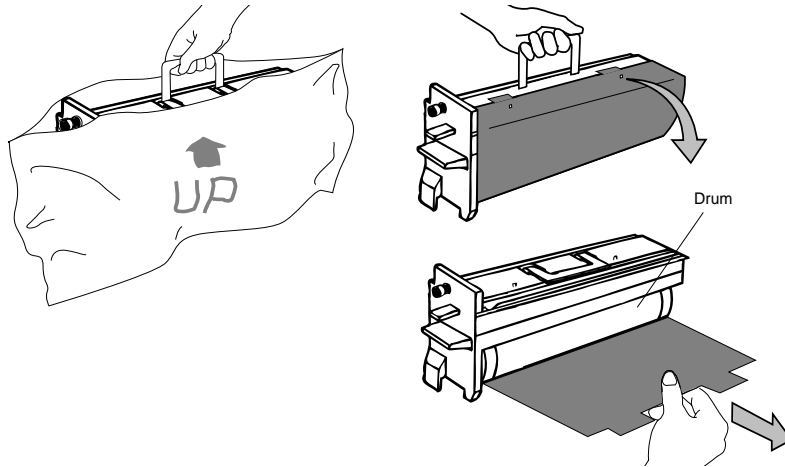

Figure 4-27 Unpacking Drum and removing the Protective Cover
1. Open the vacuum sealed bag containing the drum and remove it, as shown in Figure 4-27.
2. Hold the drum by the top handle, set it on a solid surface, and carefully remove the protective cover, as shown in Figure 4-27.